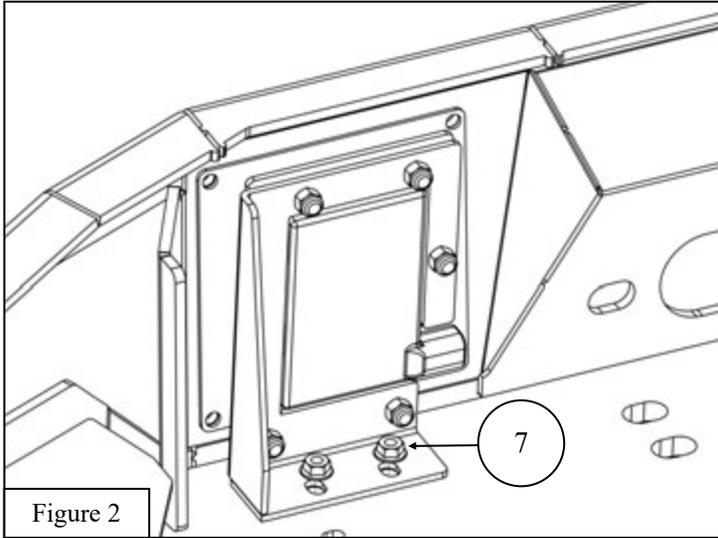

Figure 2
4. Install the ACC bracket into the HDX MAX Winch Tray behind the ACC cover using the M6 hardware (**items 4-7**). Tighten the M6 hardware to 7-8 ft-lbs. See **Figures 2 and 3**.
6. Connect the ACC Extension Cable (**item 3**) to the ACC sensor. Route the ACC Extension Cable through the front bumper, into the winch tray, and under the winch.